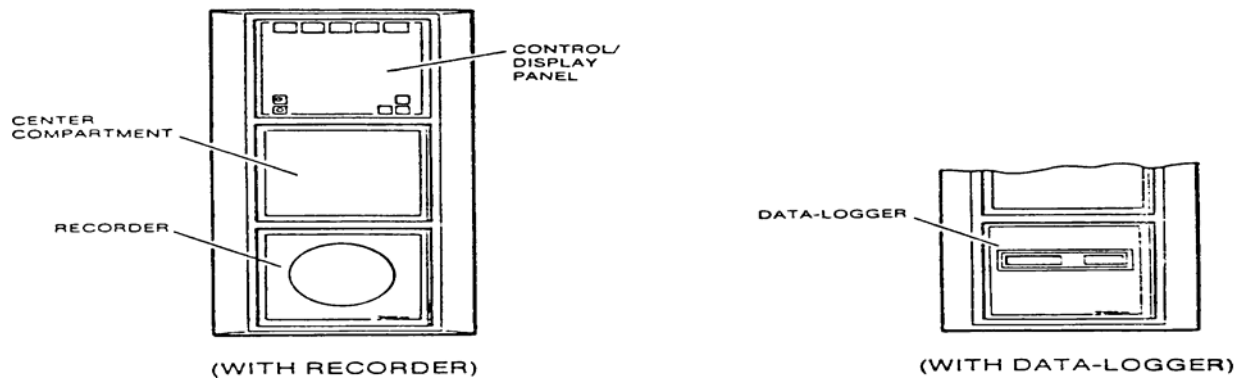

Figure 1-2. Remote location package, vertical mount.
e. **Remote End Control Head**. The remote end control head displays the full range of indicators and operative switches as shown in figure 1-2, except for time, temperature, and cycle selectors. Enter all variable selections at the control end control/display panel.
(1) Allow ample cooling time to prevent possible thermal shock or liquids boiling over when the door is opened or when the load is removed. After a complete cycle, check to ensure that the chamber pressure gauge is at zero. Failure to observe this warning when sterilizing a liquid load may cause violent agitation of the liquid. This may result in the liquid boiling over or flasks exploding.
(2) Wear an elbow length heat resistant glove to protect you against escaping residual steam when you lower the verti-glide door. After the liquids cycle has completed, lower the verti-glide approximately one inch from the top for the residual steam to escape. After 15 minutes, carefully remove the flasks. Be careful not to agitate the load.